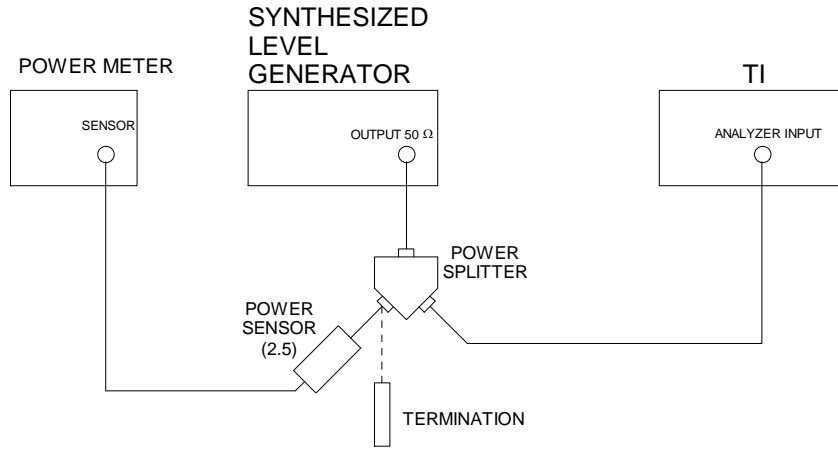

Figure 2.
4.9.3 Connect the equipment as shown in Figure 2 with the Power Sensor (2.5) connected to the Power Splitter.
4.9.17 Connect equipment as shown in Figure 2 with Power Sensor (2.5) connected to Power Splitter, except replace the Synthesized Leveled Generator with the Synthesized Sweeper.